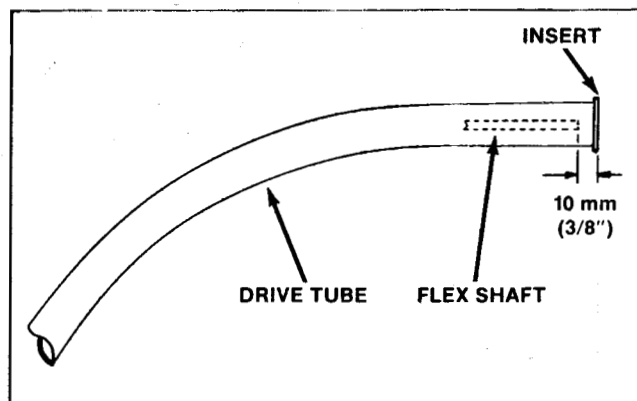

Figure 107
1. Insert the flexible shaft into the nylon sleeve. Make sure that the shaft seats properly in the clutch drum. Proper seating is obtained when the flexible shaft is 10 mm (3/8") inside the drive tube. See Fig. 107